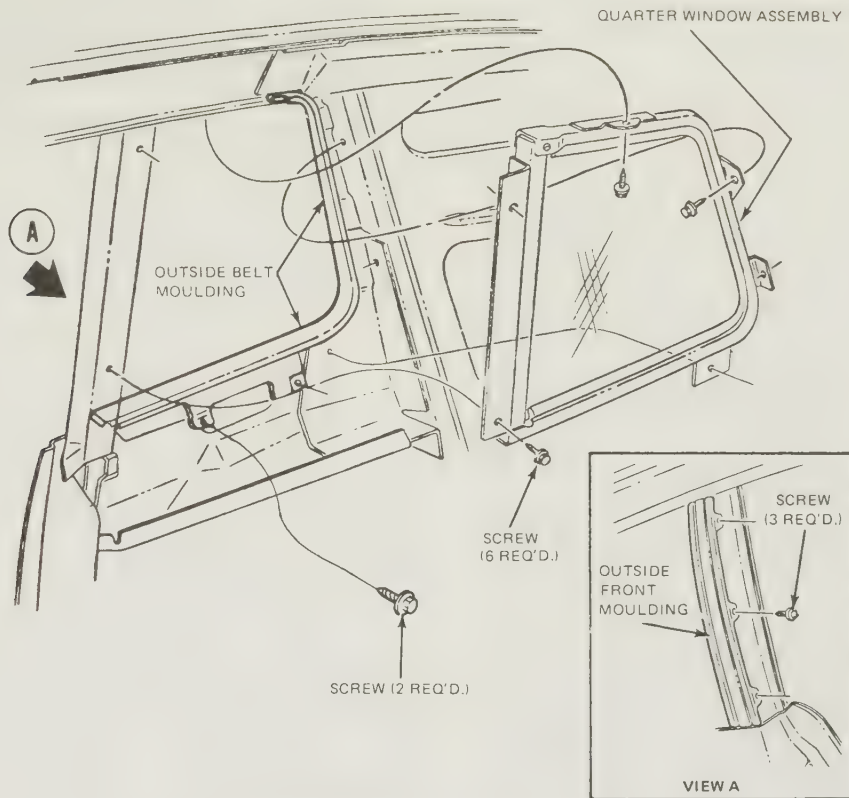

Fig. 12.12. Quarter window assembly, Sedan fixed type (Sec. 23)
- 2 Refer to Fig. 12.12 and remove the window and frame retaining screws.